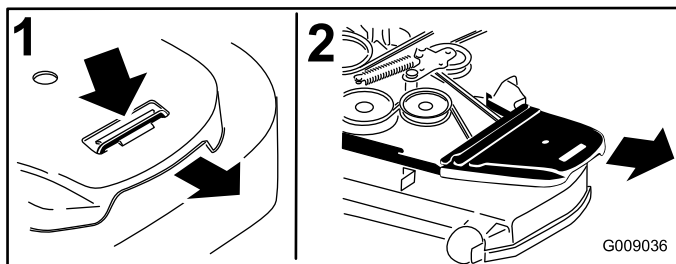

Figure 55
4. Remove the belt covers (Figure 55).